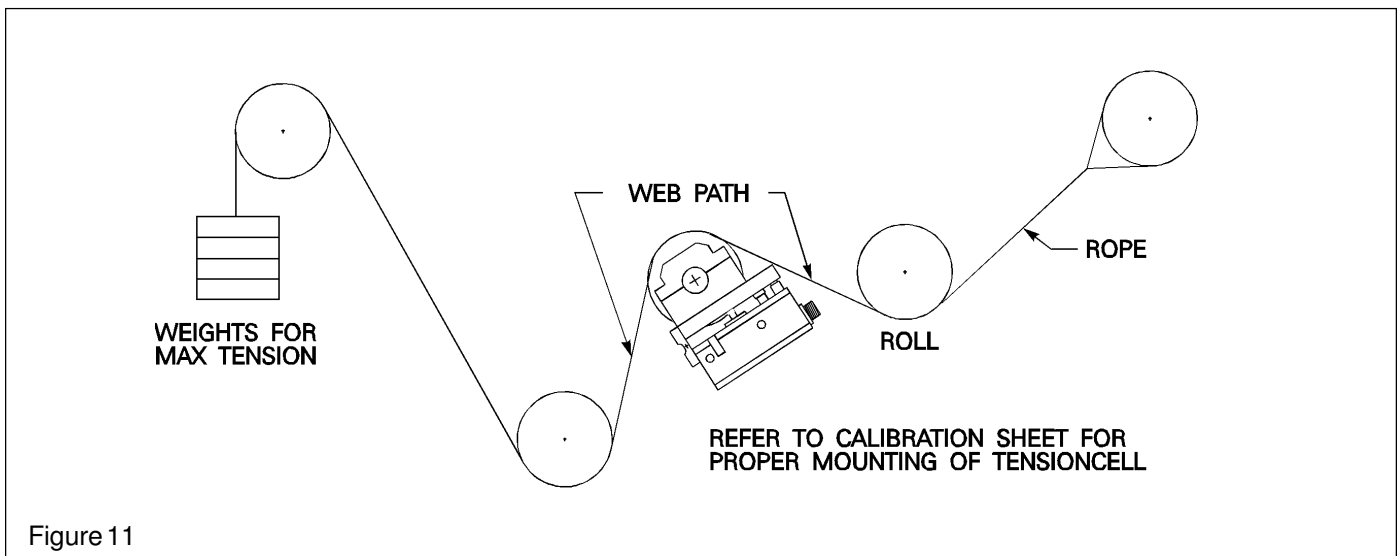

Figure 11
2. With one end of the rope secured, hang a known weight, so that the total tension is equal to the maximum web tension specified on the calibration sheet. (See Figure 11.)